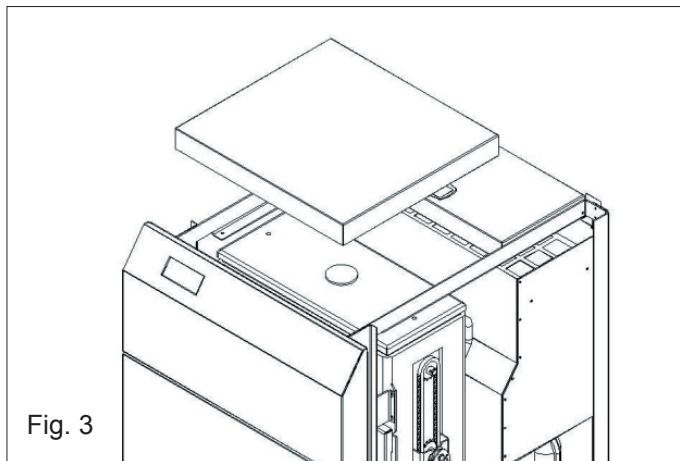

Fig. 3
- disconnect the appliance from the electrical power mains.(Fig. 3).
- remove the upper hood (Fig. 3);